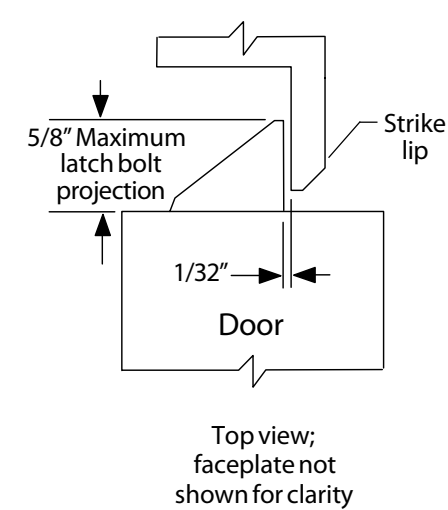
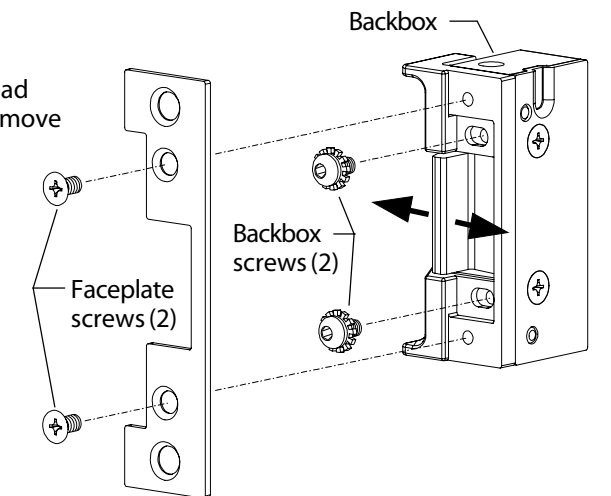

Figure 9
Figure 10
- Install strike with two #12-24 mounting screws. Make sure clearance between latch bolt and strike lip is 1/32" (Figure 9). If not, remove strike, adjust (Figure 10), and reinstall.